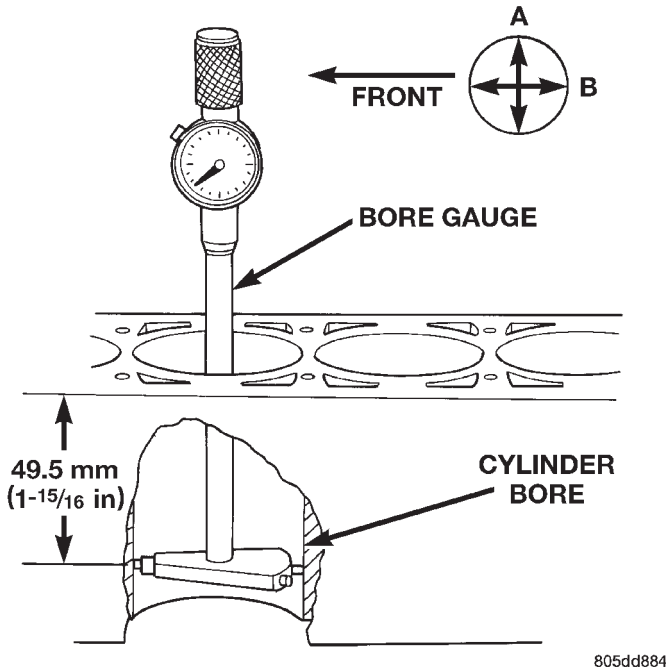

Fig. 124 Bore Gauge—Typical
(1) It is mandatory to use a dial bore gauge to measure each cylinder bore diameter. To correctly select the proper size piston, a cylinder bore gauge, capable of reading in 0.003 mm (.0001 in.) INCREMENTS is required. If a bore gauge is not available, do not use an inside micrometer (Fig. 124).
(2) Measure the inside diameter of the cylinder bore at three levels below top of bore. Start perpendicular (across or at 90 degrees) to the axis of the crankshaft and then take two additional reading.
(3) Measure the cylinder bore diameter crosswise to the cylinder block near the top of the bore. Repeat the measurement near the middle of the bore, then repeat the measurement near the bottom of the bore.
(4) Determine taper by subtracting the smaller diameter from the larger diameter.
(5) Rotate measuring device 90° and repeat steps above.
(6) Determine out-of-roundness by comparing the difference between each measurement.
(7) If cylinder bore taper does not exceed 0.025 mm (0.001 inch) and out-of-roundness does not exceed 0.025 mm (0.001 inch), the cylinder bore can be honed. If the cylinder bore taper or out-of-round